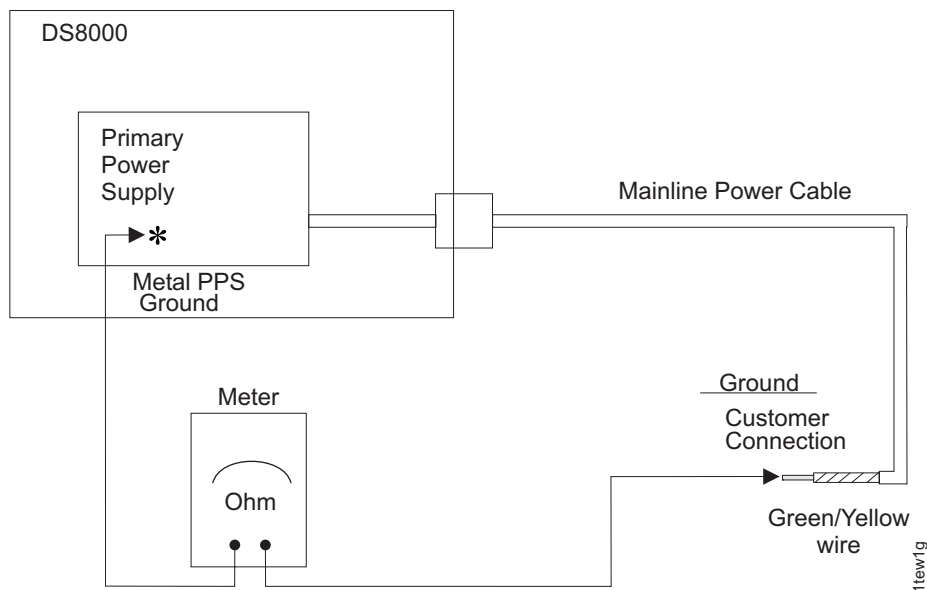

Figure 41. Prepare multimeter to measure ohm resistance
6. Prepare the multimeter to measure 0.1 ohm or less resistance. Place one lead of the multimeter on the green and yellow wire at the customer end of each mainline power cable. Place the other lead on the conductive metal of each PPS enclosure. Refer to Figure 41 on page 44.